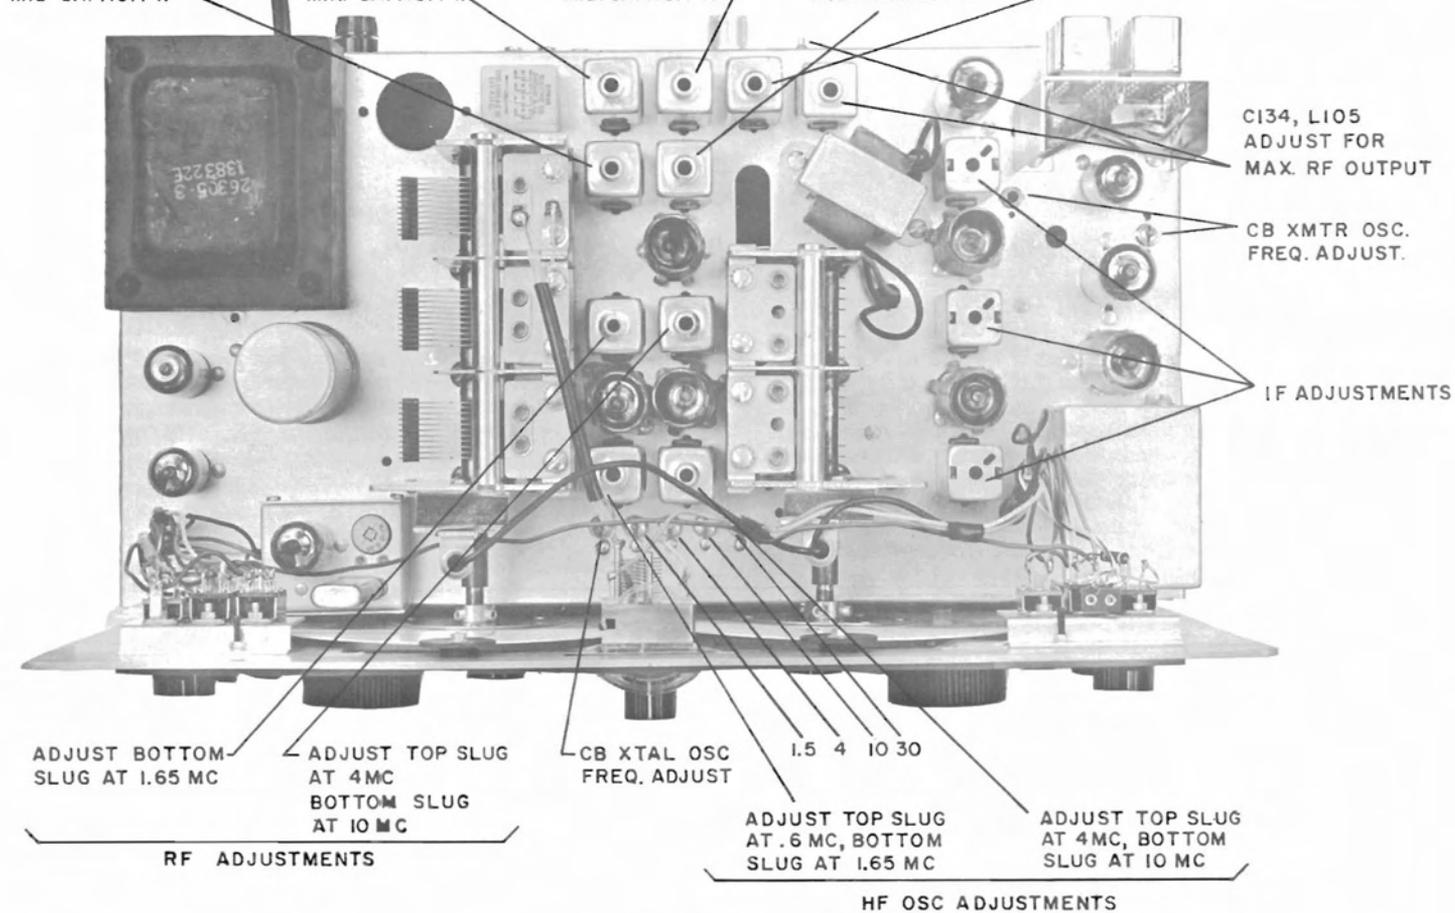

Figure 7. Top view of Chassis
- d. During alignment, adjust the generator output and the SENSITIVITY control to prevent overloading. Final adjustment should be made with the SENSITIVITY control at approximately the third indice from its maximum (clockwise) position. Adjust each of the three IF transformers for maximum meter reading. Topside adjustments (Figure 7) are secondaries or grid circuits; bottom of chassis adjustments (Figure 8) are primaries or plate circuits.
- b. All RF and oscillator slug adjustments are made from the top of the shield cans. See Figure 7.
The trimmer adjustments, if required, should be the final adjustment for each band. See Figure 7 and 8 for location of trimmers.
- b. Check to see that the frequencies at or near the alignment frequencies are "on the line." If not, make minor adjustments of the slugs and trimmers (Figures 7 and 8) to make them correct.